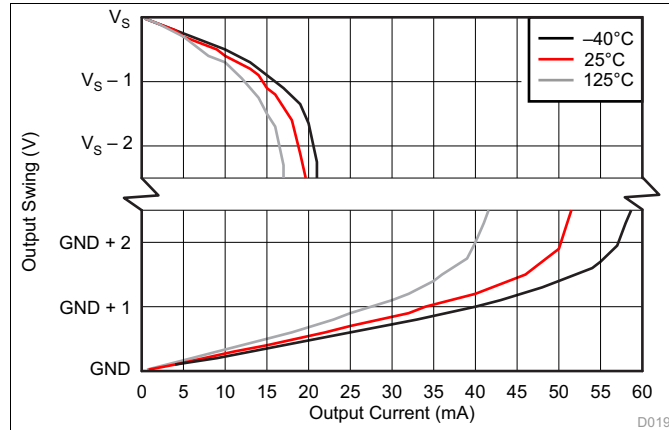

Figure 19. Output Voltage Swing vs Output Current
(1) RTI = referred-to-input.
(2) See Figure 19.
(3) Swing specifications are tested with an overdriven input condition.